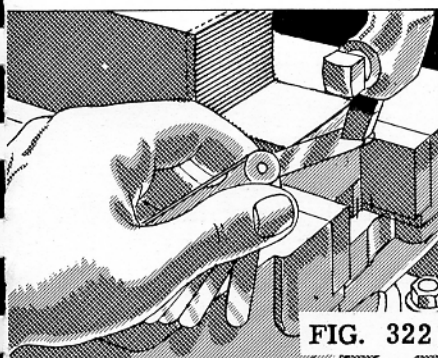

FIG. 322
17. Measure the distance from the end of the work to the shoulder whenever it must be maintained accurately by using the graduations on the micrometer collar of the cross-feed screw. Move the end of the work against the left side of the tool (Fig. 322), using a feeler between them. Set the micrometer collar to zero (Fig. 323). Raise the tool above the vertical surface (Fig. 324). Move the